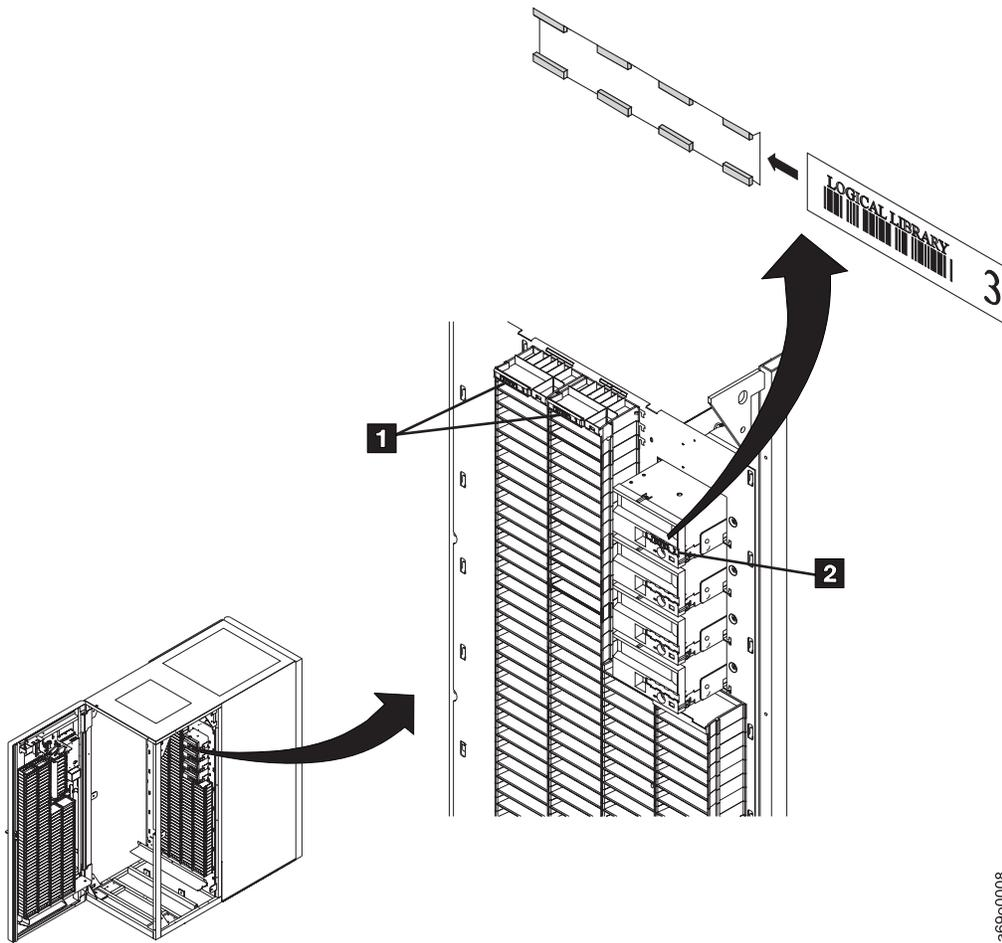

Figure 90. Sample Label and Holder Placement
3. Check the logical library labels **1** and **2** for folds, missing pieces, tears or any extraneous markings, including smears or smudges along the length of the label (see Figure 90 on page 549).